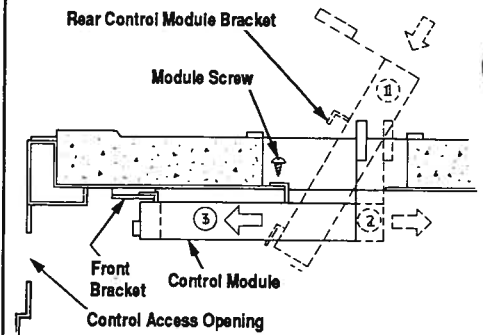

Figure 36
Step 4. Remove the control module from the carton and insert the control end (facing the control access opening) into hearth opening (Figure 36). Rotate control module until level inside opening and slide to rear (Figure 36). Slide forward until front module flange engages front bracket under hearth and rear bracket slides over hearth flange. Replace control module screw to secure control module in place.